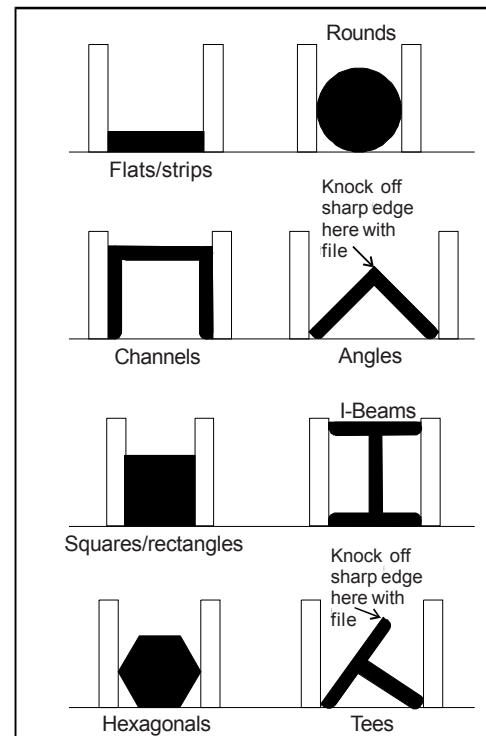

Figure 11: Placing workpieces in the vise
3. Clamp the workpiece in the vise. (See figure 11 for examples of workpieces in the vise.)